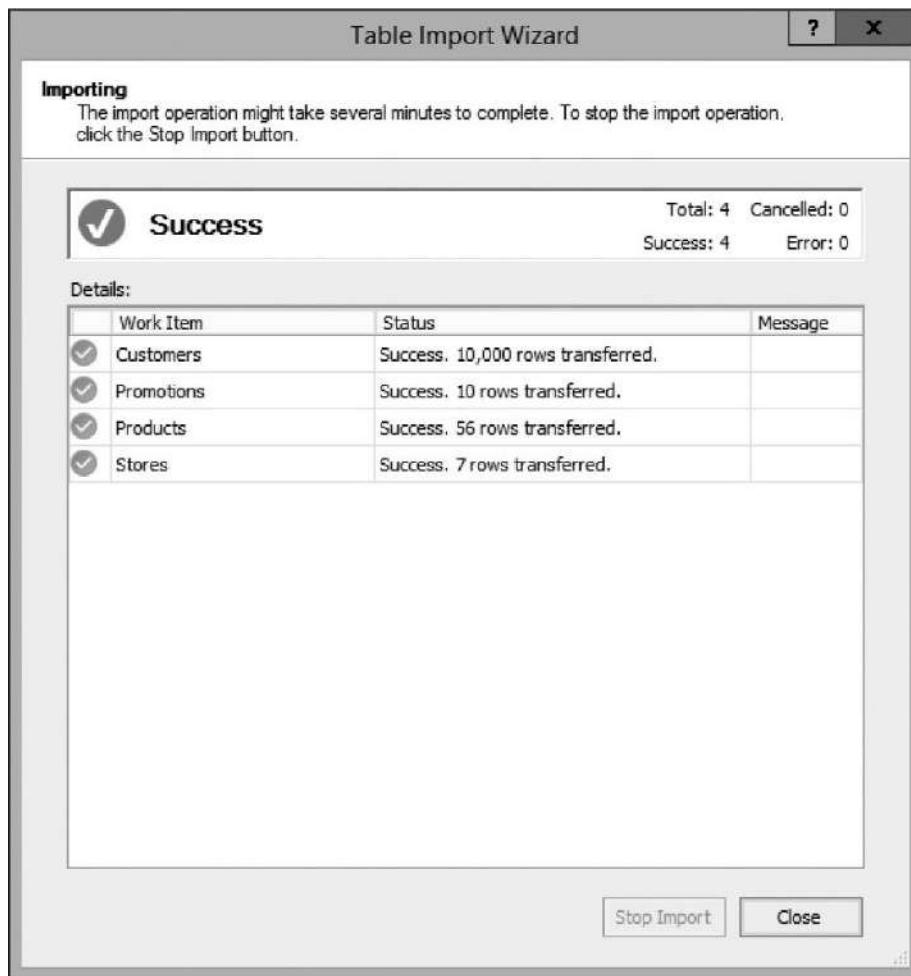

Figure 9-9 The Importing page of the Table Import Wizard
11. Click Finish. Data from the selected tables will be imported into the model. Upon completion of the data import, the Importing page of the Table Import Wizard will appear, as shown in Figure 9-9.